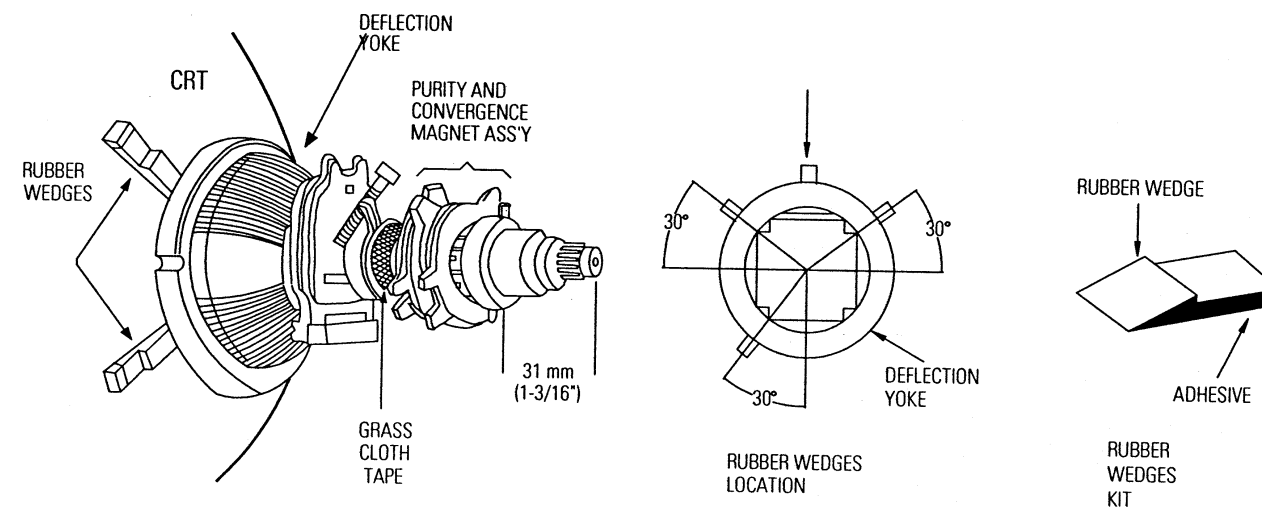

Fig. 1 Tube Assembly
7. Loosen the Deflection Yoke clamp screw, and move the Deflection Yoke as close to the purity magnet as possible. Refer to figure 1 below.